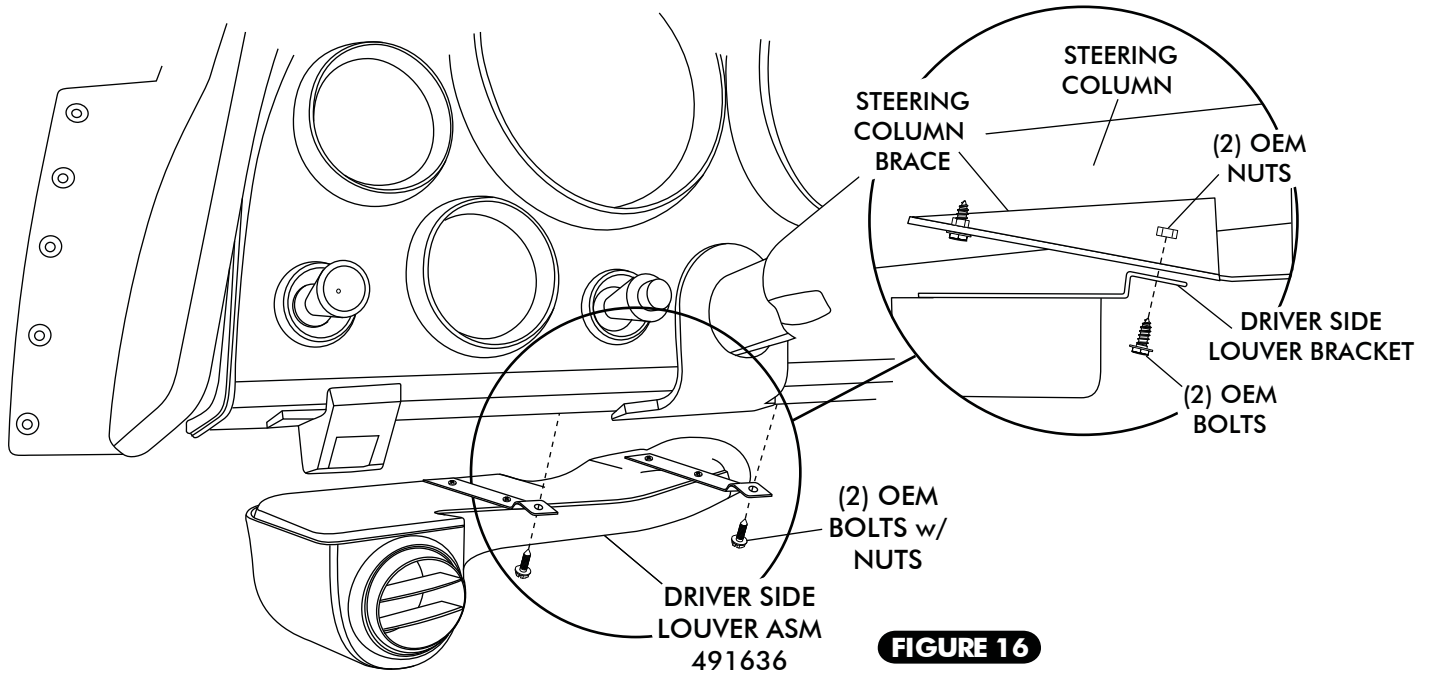

FIGURE 16
- REMOVE THE (2) BOLTS AND NUTS FROM STEERING COLUMN BRACE AND SECURE LOUVER HOUSING TO UNDER DASH STEERING COLUMN BRACE USING THE (2) OEM BOLTS AND NUTS AS SHOWN IN FIGURE 16 BELOW.